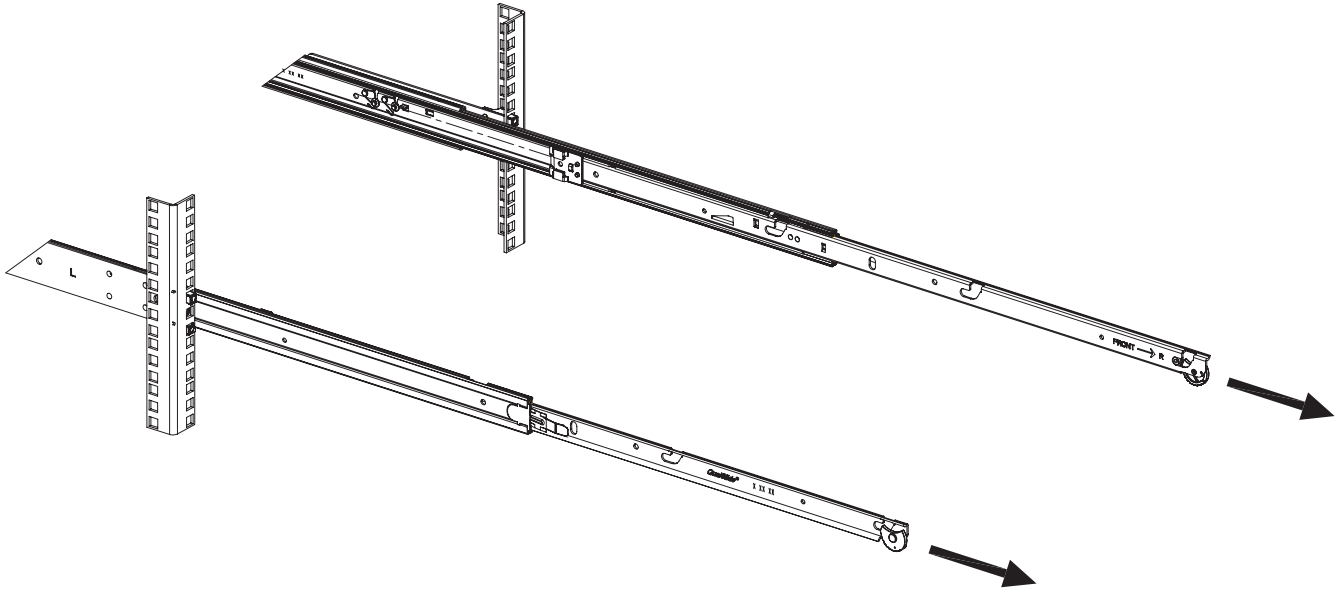

Figure 2-3 Extending ISS3112-RP2 Rail Slides Example
2. Fully extend the rail slides as shown in the example in Figure 2-3.